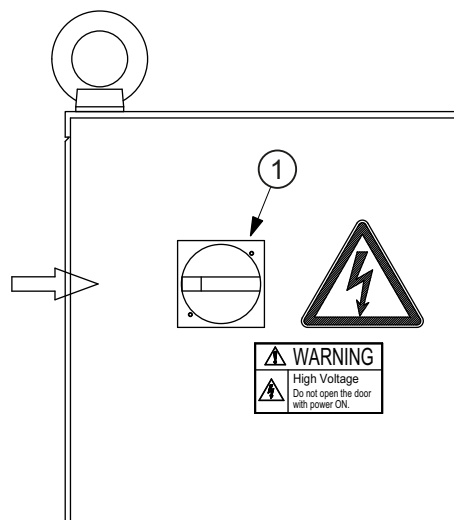

Fig. 9-4: Main power switch in "switch-off" position
1. Turn the robot controller to the main power supply (see Fig. 9-4: "Main power switch in "switch-off" position").